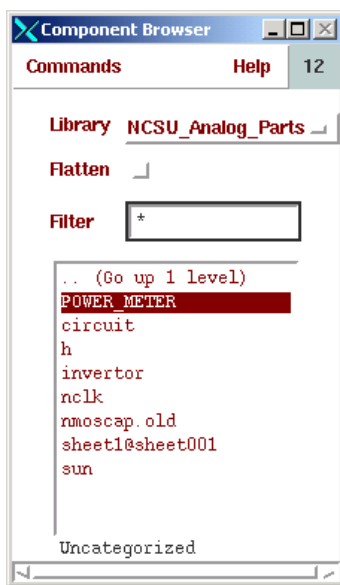
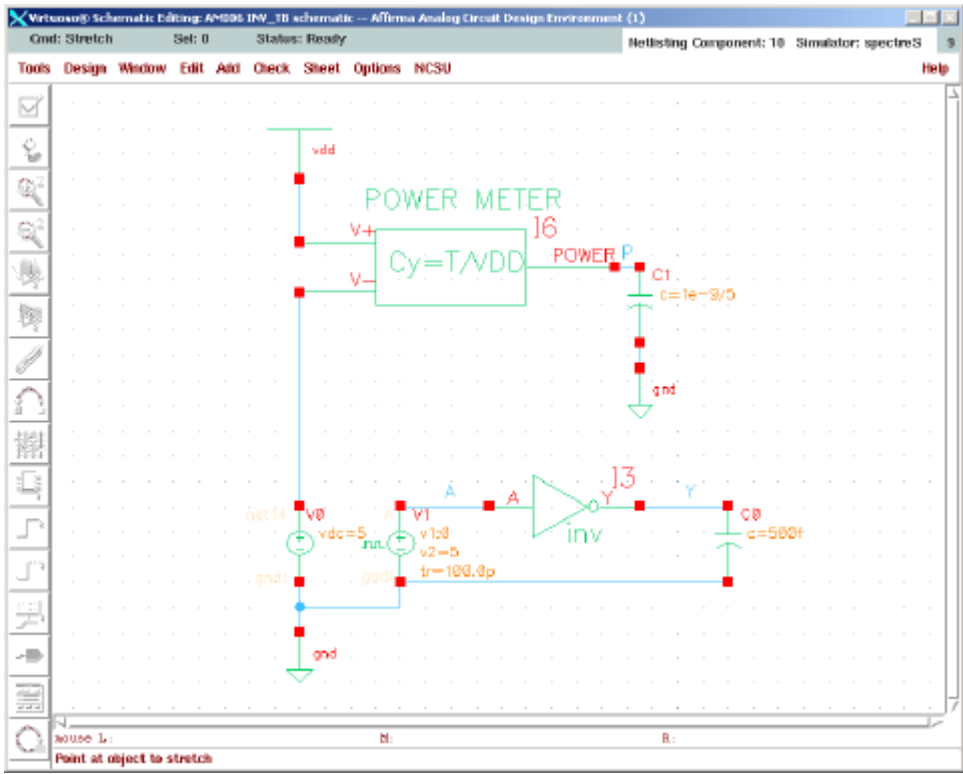

Figure 51: Adding a Power Meter.
Figure 52: Schematic with Power Meter Added.
1. Press **i** to bring up the add component pop-up and click on browse. Set the library to NCSU_Analog_Parts and then click on Uncategorized. You should see a pop-up like Figure 51. Figure 52.
2. Stamp it down in your schematic and wire it up like Figure 52.
3. Add a capacitor and ground to the circuit, and wire it up like in Figure 52.
5. Add the wire Name **P** to the net connecting the capacitor and the power meter as in Figure 52.